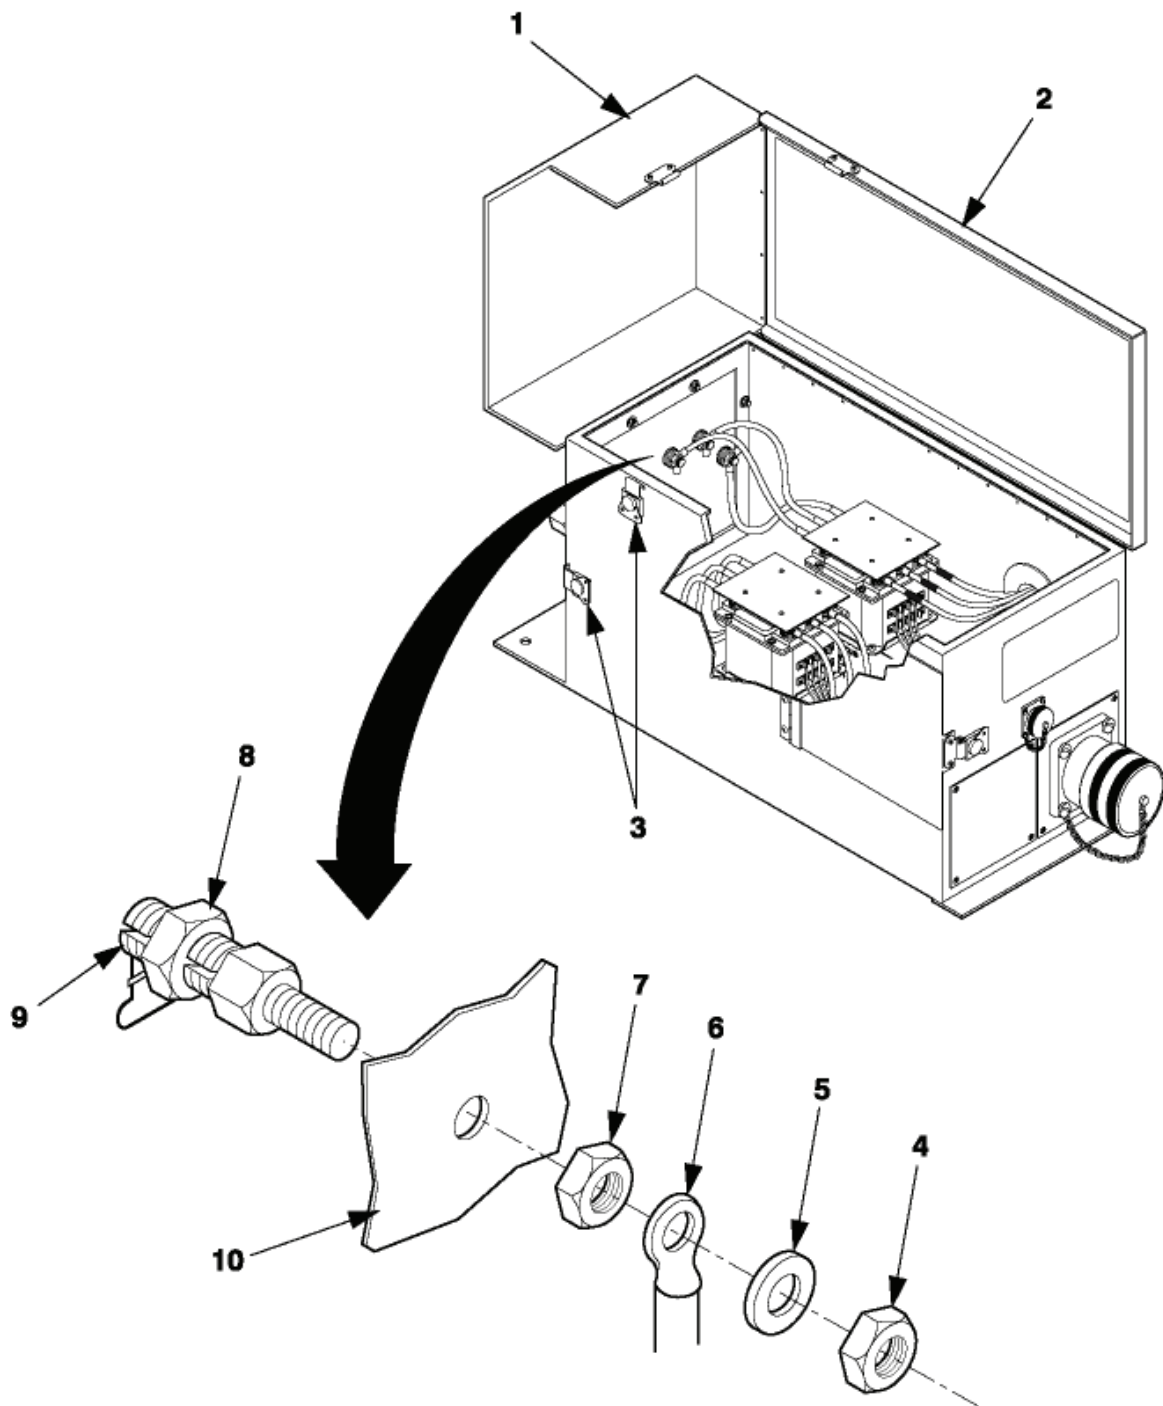

Figure 4-15.1. Switch Box Load Terminal Maintenance (B&C Models)
1. Release clamping catch (3, figure 4-15.1) and open load terminal door (1).
2. Release clamping catch (3) of switch box cover (2) in front of switch box assembly.
3. Lift switch box cover (2).
4. Disconnect external load terminal lead from defective terminal (9).
5. Close load terminal door (1, figure 4-15.1) and secure with clamping catch (3).